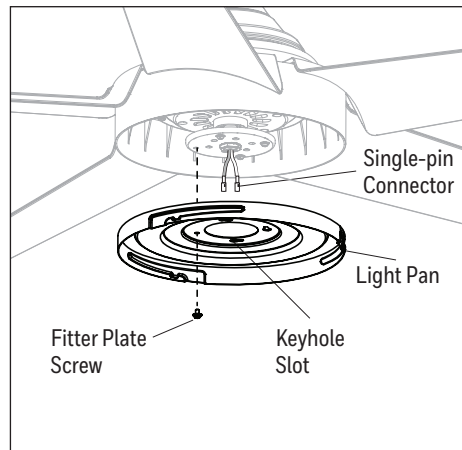

Figure 5.5
5. Remove one of the four fitter plate screws preassembled to the fitter plate and loosen the other three but do not remove. Feed the single-pin connectors through the center hole in the light pan. Align the keyhole slots in the light pan with the loosened screws in the fitter plate. Turn light pan clockwise and replace the previously removed fitter plate screw. Tighten all screws (Figure 5.5).